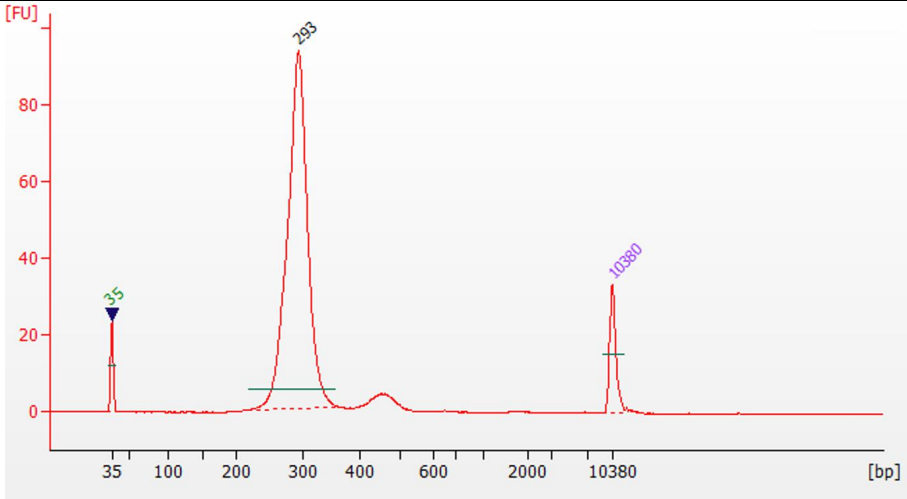

Figure 3 Ultima Pro DNA library prep kit used for the library construction of cfDNA samples
3.7.1 Figure 3 showed the size distribution (analyzed with Agilent 2100 DNA 1000 Chip) of the libraries that is constructed with 100 ng of FFPE input DNA (without size-selection) using the Hieff NGS® Ultima Pro DNA Library Prep Kit for Illumina®.
3.7.2 Figure 3 showed the size distribution (analyzed with Agilent 2100 DNA 1000 Chip) of the libraries that is constructed with 10 ng of cfDNA using the Hieff NGS® Ultima Pro DNA Library Prep Kit for Illumina®.